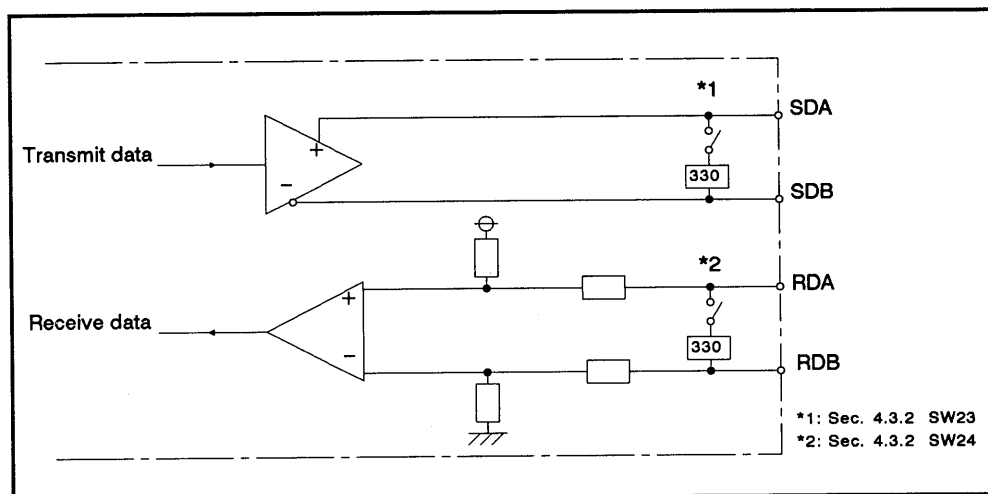

Fig. 3.3 RS-422 Function Block Diagram
(1) Fig. 3.3 shows the RS-422 function block diagram.